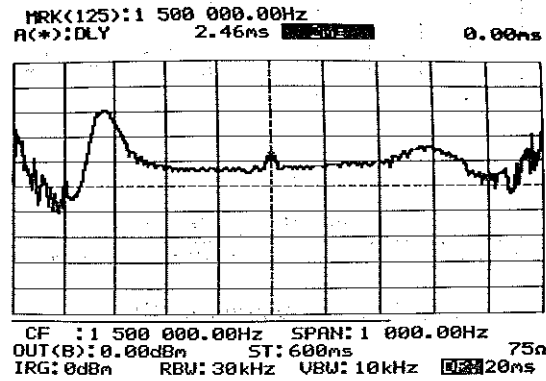

Fig. 3.15 Scale Adjustment
- 12 Set the SCALE so that the waveform on the CRT increases to the size shown Fig. 3.15.